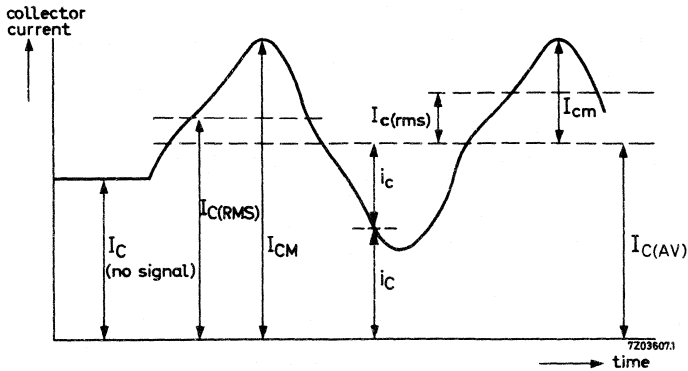

Fig.1
4. List of subscripts (examples, see figure 1)
- (BR) = Break-down
- (AV), (av) = Average value
Figure 1 represents a transistor collector current, consisting of a direct current and a signal, as a function of time.